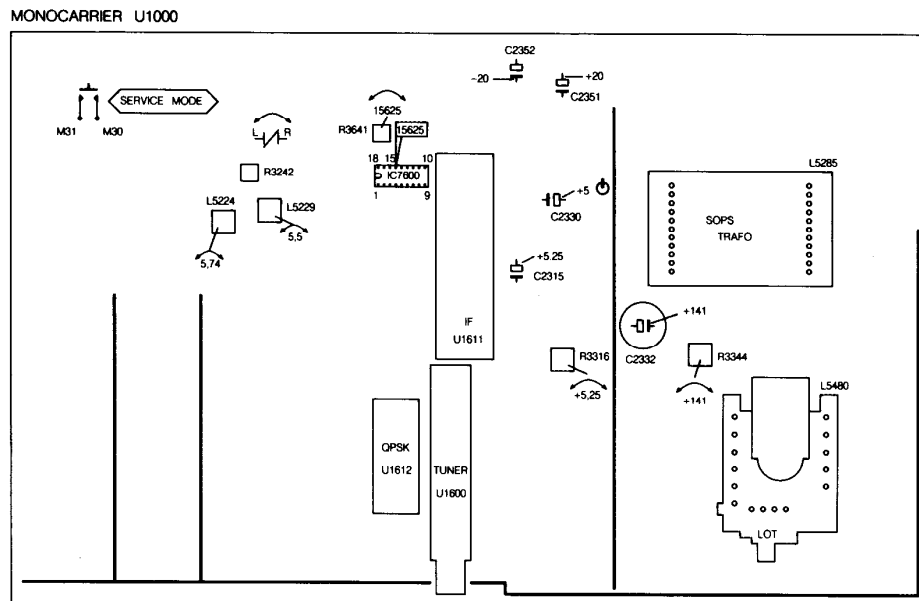

Fig. 14
A. Electrical adjustments on the chassis (see figure 14)